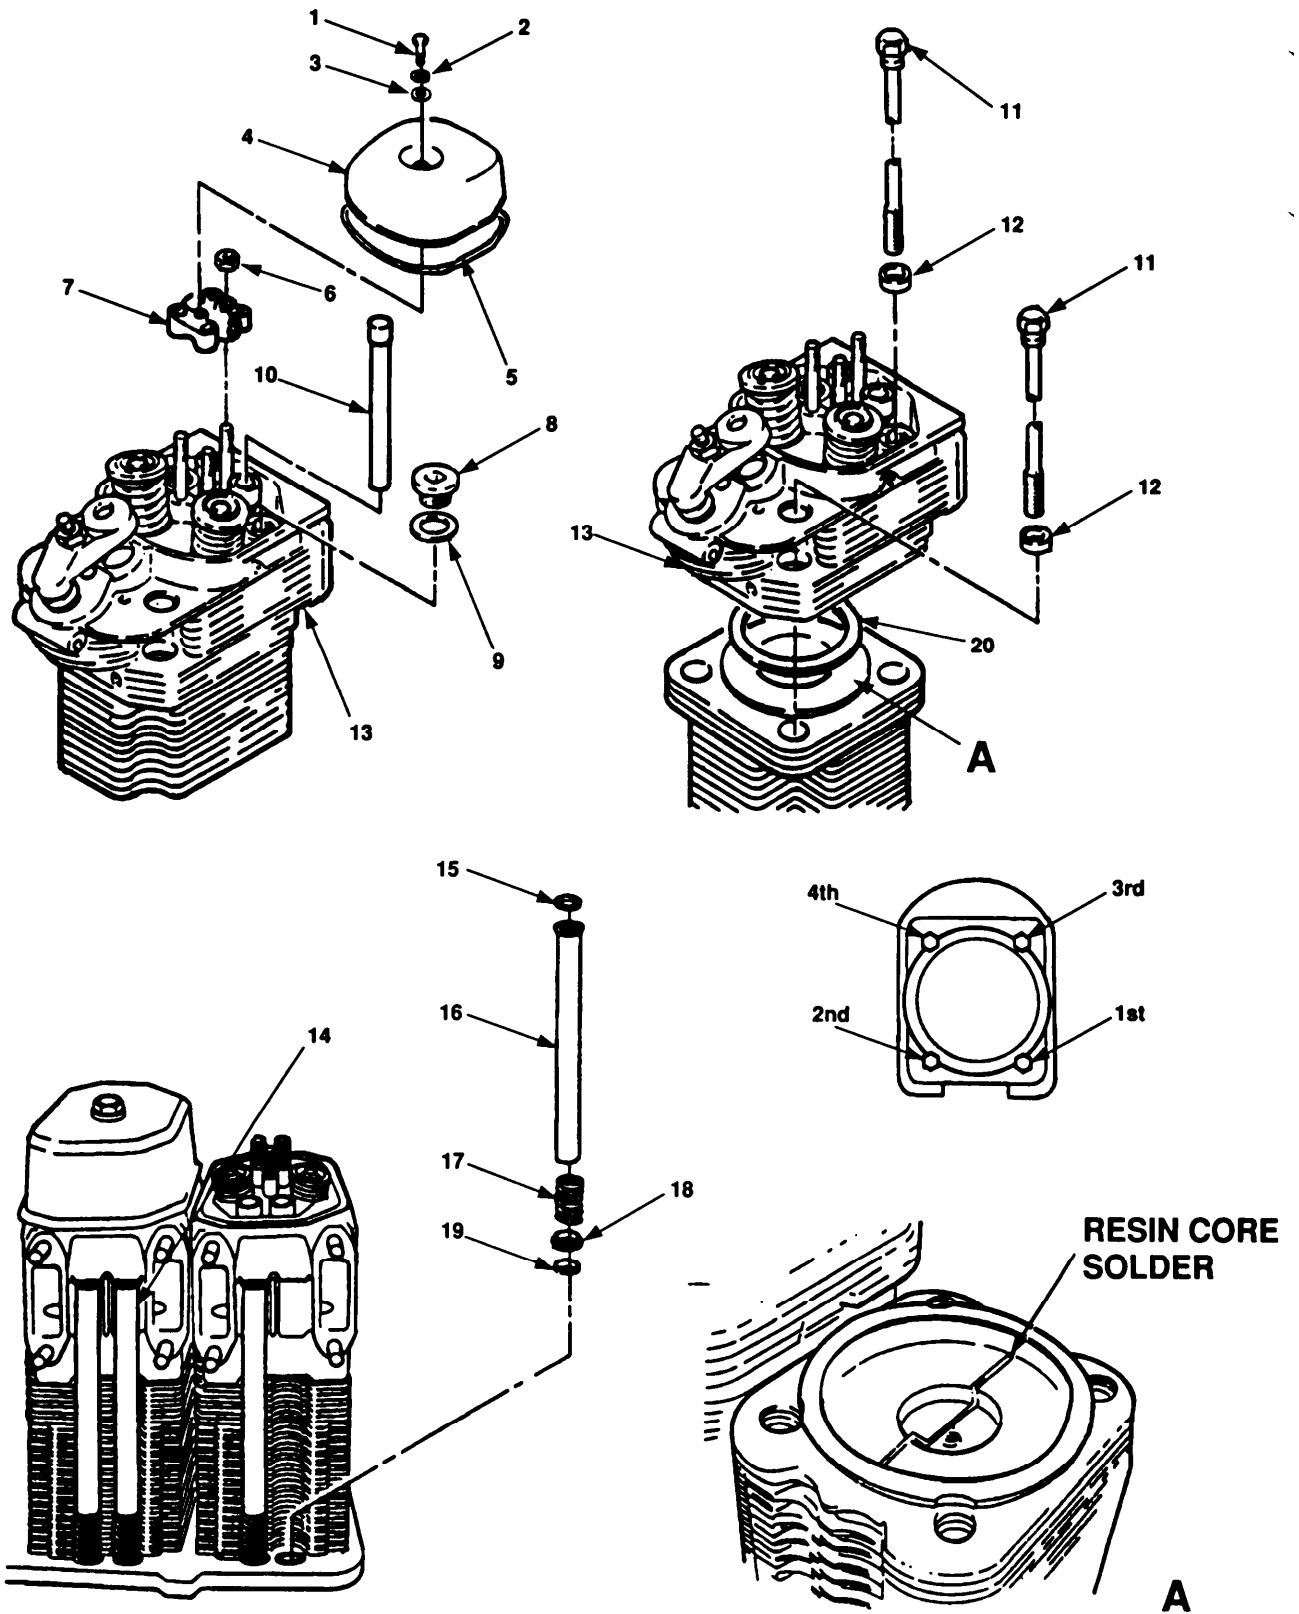

Figure 6-1. Cylinder Head Removal and Installation.
- a. Remove rocker cover bolt (figure 6-1, 1), lockwasher (2) and washer (3).
- b. Remove rocker cover (4) and rocker cover gasket (5).
- c. Remove three nuts (6) and rocker arm assembly (7).
- d. Remove two cover plugs (8) and gaskets (9).
- e. Remove two pushrods (10).
- f. Remove four cylinder head bolts (11) and washers (12).
- g. slowly lift cylinder head (13) from cylinder while keeping Pushrod cover tube assemblies (14) steady; then remove the pushrod cover tube assemblies.
- h. Remove washer (15), pushrod cover tube (16), spring (17), cap (18), and washer (19) from each pushrod cover tube assembly.
- i. Remove intermediate ring (20).
- a. Coat a piece of 2mm resin core solder with grease and place it in position on piston crown at right-angles to center line of engine, as shown in figure 6-1, view A, but not on any stenciling on piston.
- b. Measure length of each cylinder head bolt (11).
- (1) Install intermediate ring (20) on block.
- (2) Install cylinder head (13) on cylinder.
- (3) Install washers (12) and cylinder head bolts (11), then slightly tighten cylinder head bolts.
- e. Tighten head bolts in sequence, as shown in figure 6-1, through first stage 45° angle.
- g. Remove cylinder head (13), and measure the thickness of the resin core solder at its smallest point.
- h. When thickness is not between 0.40 and 0.48 inches (1.0 and 1.2 mm), add shims at bottom of cylinder (paragraph 6.6.2) and repeat adjustment. When thickness is correct, install cylinder head (13).
- a. Install intermediate ring (20).
- b. Install cylinder head (13), four washers (12) and cylinder head bolts (11).
- c. Tighten head bolts in sequence shown in figure 6-1 and torque in accordance with appendix G.
- d. Install new gaskets (9) and cover plugs (8), then torque plugs in accordance with Appendix G.
- e. Using spring tensioning tool, assemble and compress spring (17) on pushrod cover tube (16).
- f. Install cap (18) with open side towards spring.
- g. Install new washer (19), with wide end face toward end of pushrod cover tube (16).
- h. Install new washer (15), with wide end face toward upper shoulder on pushrod cover tube (16).
- i. Insert spring end of pushrod cover tube (16) in crankcase hole. Position upper end of pushrod cover tube (16) with cone in cylinder head (13).
- j. Slowly remove spring tensioning tool, while guiding upper end of pushrod cover tube (16) into cylinder head (13).
- m. Install pushrods (10) with cup ends up.